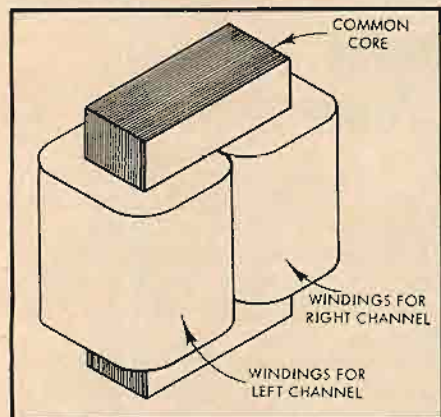

Fig. 9. Early idea for economy stereo output transformer.
When stereo began as an experimental production entity, the possibility shown in Fig. 9 was suggested.4 Its intention was for use in an inexpensive dual channel amplifier, where the d.c. magnetization of two single-ended output stages could cancel, push-pull fashion, and there would be loss of separation at the
However it led to the development of an improved version, shown in Fig. 10. This achieves a number of advantages.5 As in the simple form of Fig. 9, the longer limbs carry a transformer each for left and right output, which can be single-ended just the same. But the end winding provides common low-frequency output, and uses a single shunt capacitor to complete the low-pass action in the feed to this unit. However adding this capacitor buys more than simple crossover action: it improves separation in the region immediately above crossover, as shown at Fig. 11.
Curve (B) represents the separation obtainable with the simple two-winding assembly of Fig. 9. With the third winding and its associated capacitor, curve (A) represents each output response to its own winding and curve (E) represents the response into the low-pass output. Curve (C) represents the output into left and right outputs when differential turns from winding at the end are connected in series with the main secondary windings, while curve (D) shows the separation resulting in these outputs, due to a difference component (which starts as a sum, but is phase inverted in the third winding) from this combination. The shading shows the improved separation between left and right resulting from combined use of leakage inductance for crossover and left-and-right separation.